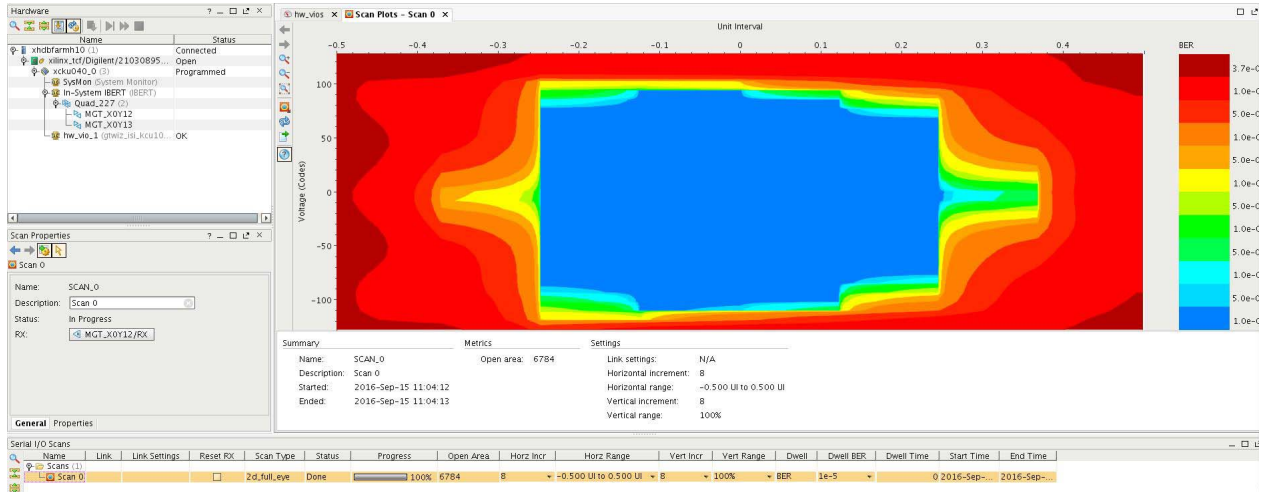

Figure 4-7: Eye Scan Plot
7. Select the required configuration, or use the default configuration and click **OK**. The eye scan plot will display similarly to that shown in Figure 4-7.